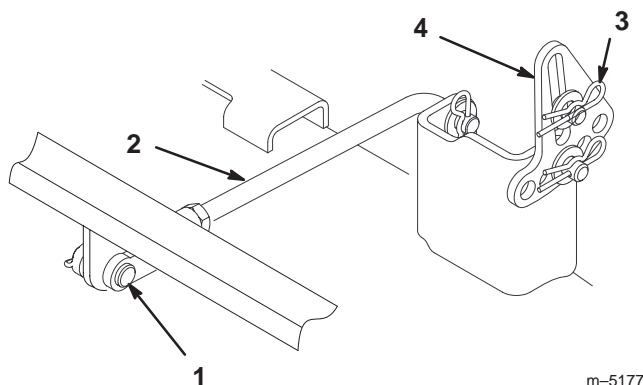

Figure 45
4. Remove the hairpin cotter and clevis pin from the rear trunnion rod (Fig. 45) on each side of the mower.
5. Remove the hairpin cotter and washer at the mower leveling brackets (Fig. 45) on each side of the mower. Note which hole the leveling bracket is mounted in for future installation. Slide the brackets off of the mounting pin.
4. Attach the rear trunnion rod to the tractor with the clevis pin and hairpin cotter (Fig. 45) on each side of the mower.
5. Slide the leveling brackets onto the mounting pins and secure them with the washers and hairpin cotters (Fig. 45).